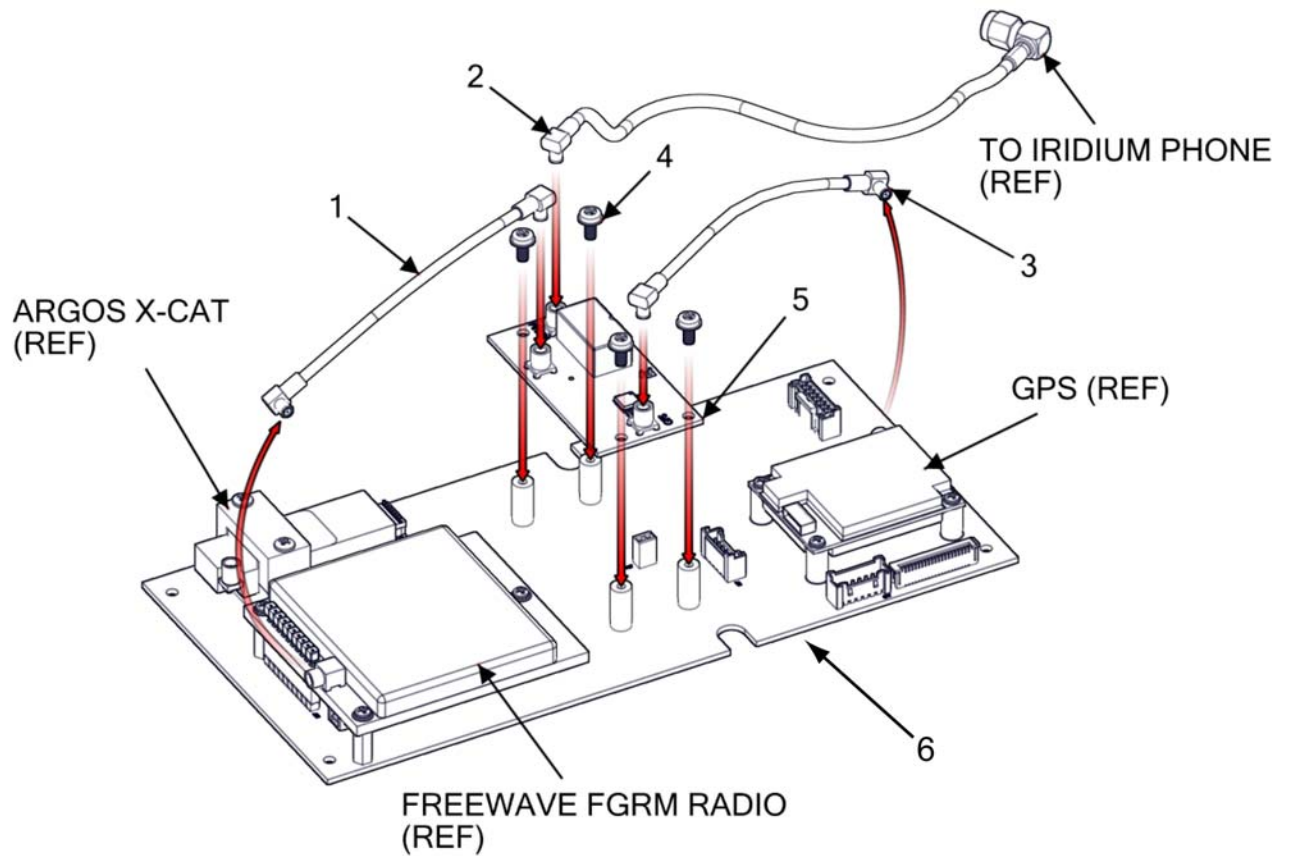

Figure 2-33 LNA switch board assembly.
1. Remove the Iridium to LNA cable (Figure 2-33, Item 2) from the LNA switchboard assembly (Figure 2-33, Item 5).
2. Remove the GPS to LNA cable (Figure 2-33, Item 3) from the LNA switchboard assembly (Figure 2-33, Item 5).
3. Remove the screws (Figure 2-33, Item 4) that secure the LNA switchboard assembly (Figure 2-33, Item 5) to the glider communications board assembly (Figure 2-33, Item 6).
4. Remove the LNA switchboard assembly (Figure 2-33, Item 5).
1. Position the LNA switchboard assembly (Figure 2-33, Item 5) on the standoffs and install the screws (Figure 2-33, Item 4) that secure the LNA switchboard assembly (Figure 2-33, Item 5) to the glider communications board assembly (Figure 2-33, Item 6).
2. Install the Iridium to LNA cable (Figure 2-33, Item 2) to the LNA switchboard assembly (Figure 2-33, Item 5).
3. Install the GPS to LNA cable (Figure 2-33, Item 3) to the LNA switchboard assembly (Figure 2-33, Item 5).